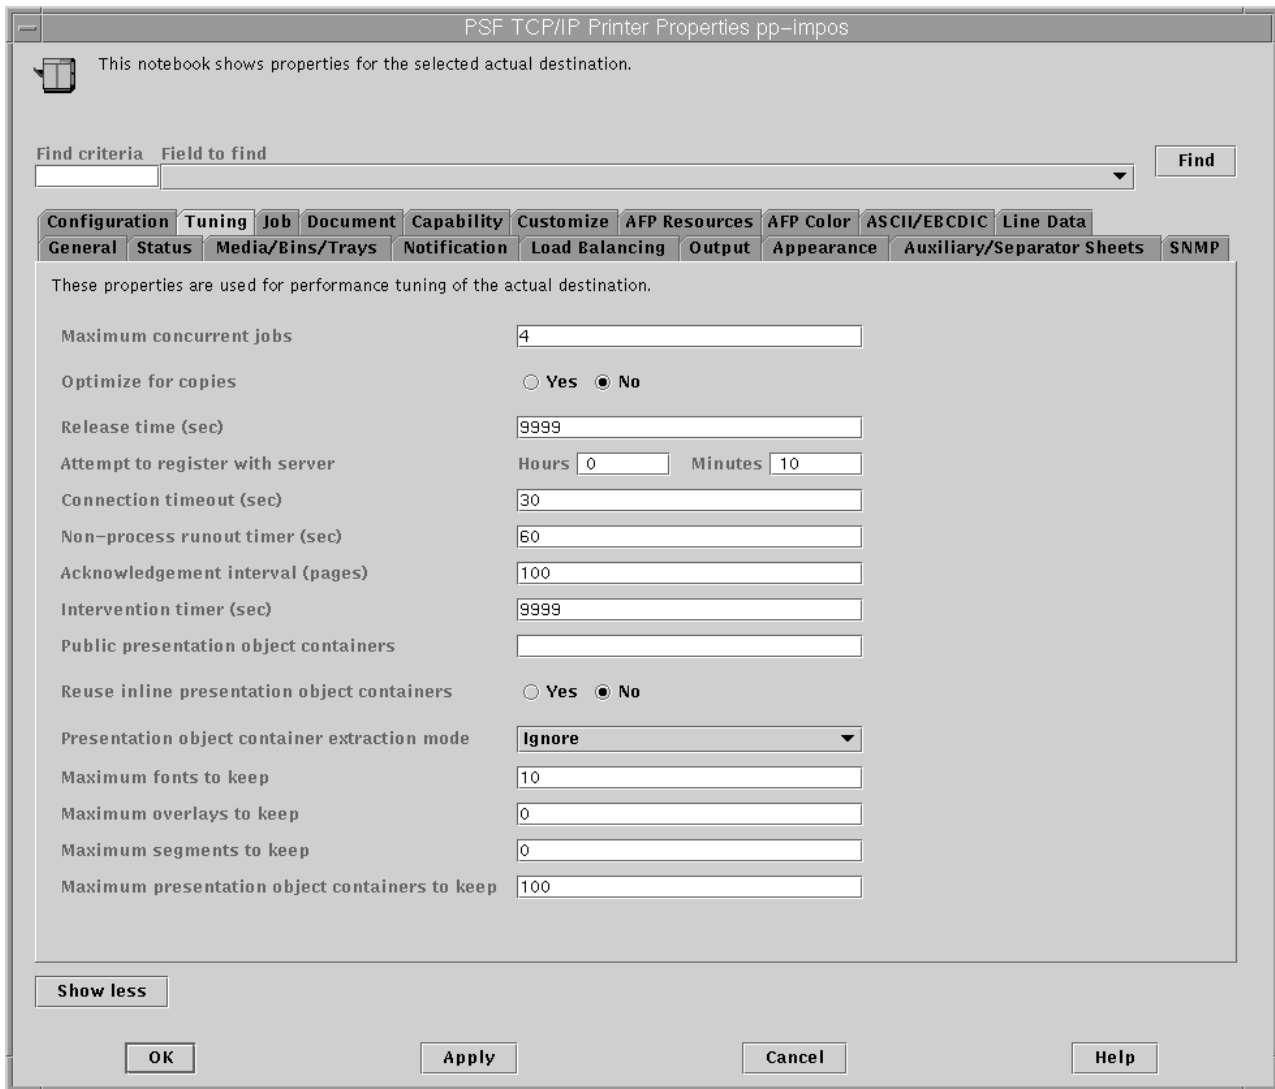

Figure 77. PSF DSS Actual Destination Properties notebook
5. Specify high values for both the **Release time (sec)** and the **Maximum presentation object containers to keep** fields as shown in Figure 77 on page 348.
6. Ensure that **Optimize for copies** is set to no, as shown in Figure 77 on page 348.